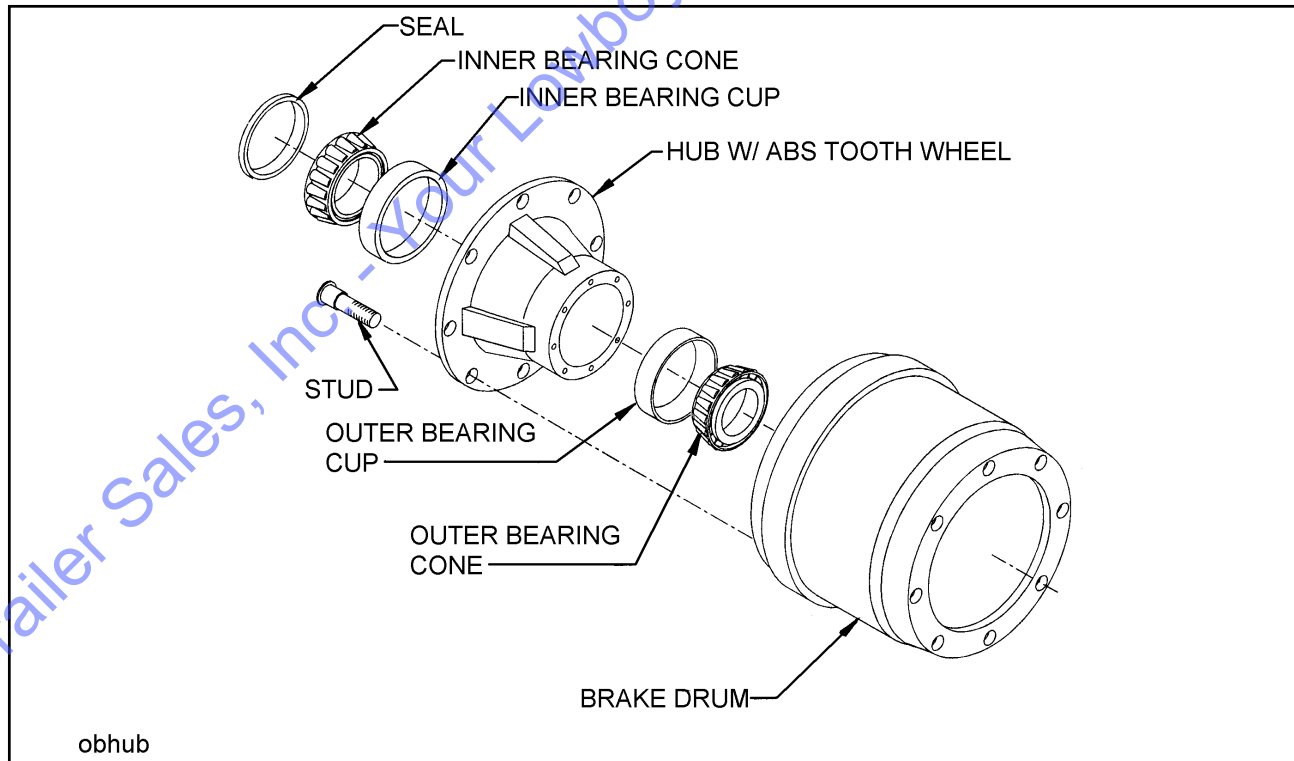

Figure 4-13 Outboard Mount Hub and Drum
(See Figure 4-13):
- a. Remove the brake drum (See Figure 4-13). It may be necessary to release the slack adjuster.